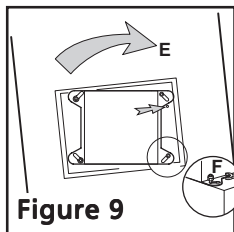

Figure 9
**Do not tighten.** Raise canopy up to chimney structure and twist in place. See Figure 9. Tighten nuts securely.